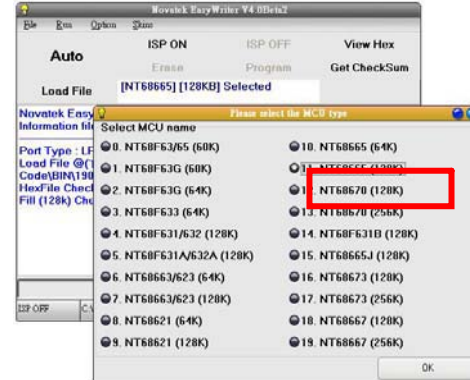

Fig.6
2. Press Option->MCU type select then select the MCU type as shown in Fig.6.